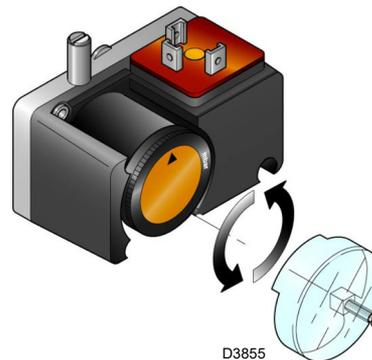

Fig. 35
- Adjust the pressure switch for the valve leak detection control device (PVP Kit)(Fig. 35 at page 38), if present, according to the instructions supplied with the Kit itself.
Adjust the pressure switch for the valve leak detection control device (PVP Kit) (Fig. 35), if present, according to the instructions supplied with the Kit itself.